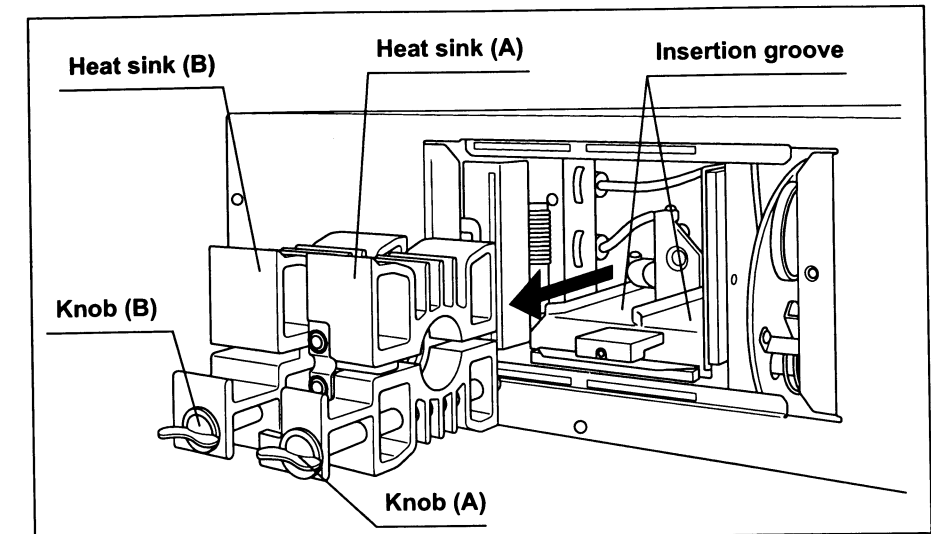

Figure 5.4
7. Turn knob (A) counterclockwise by 90° to loosen it.
8. Turn knob (B) counterclockwise by 90° to loosen it.
9. Holding the knobs or projections of the heat sinks, remove the examination lamp with heat sinks (A) and (B) attached (see Figure 5.4).